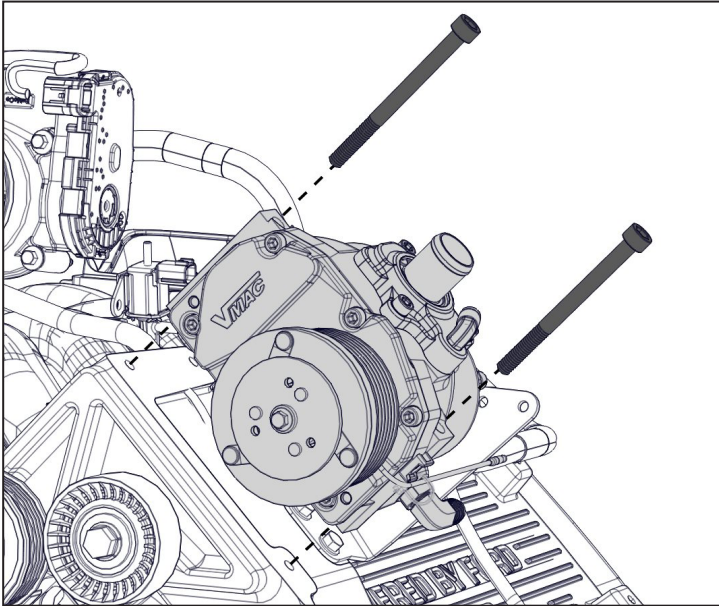

Figure 21 — Install compressor
- Mount the compressor onto the main bracket using the (2x) M8 × 1.25 × 100 mm fasteners but do not torque them yet (Figure 21).